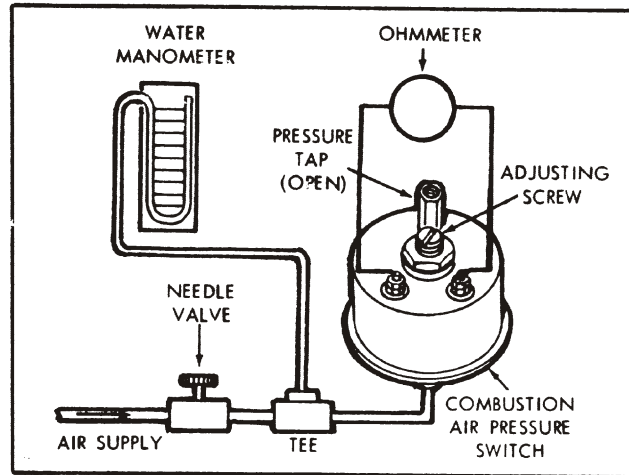

FIGURE 4-3 Test Set-Up for Combustion Air Pressure Switch
- a. Discard all rubber parts, such as grommets, gaskets, etc. These items should always be replaced at overhaul. Also discard the rope gasket (75).
- d. The combustion air pressure switch (31) must respond to delicate pressure changes and should always be checked and/or replaced at overhaul. Refer to Paragraph 4.9, c and Figure 4-3.
(1) Connect an adjustable air pressure line that can be controlled in a range of zero to 5.0 (maximum of water to the switch opening with a water manometer and needle valve in the line ahead of switch.) Switch must be tested in 45 degree position as shown in Figure 4-3, or as mounted on Heater as in aircraft.
(2) Connect an ohmmeter across the switch terminals to determine the exact instant of switch closing.
(3) Apply air pressure allowing it to build up very slowly from zero. The switch contacts should close at 0.5 ± 0.1 inches of water which will be indicated on the manometer.